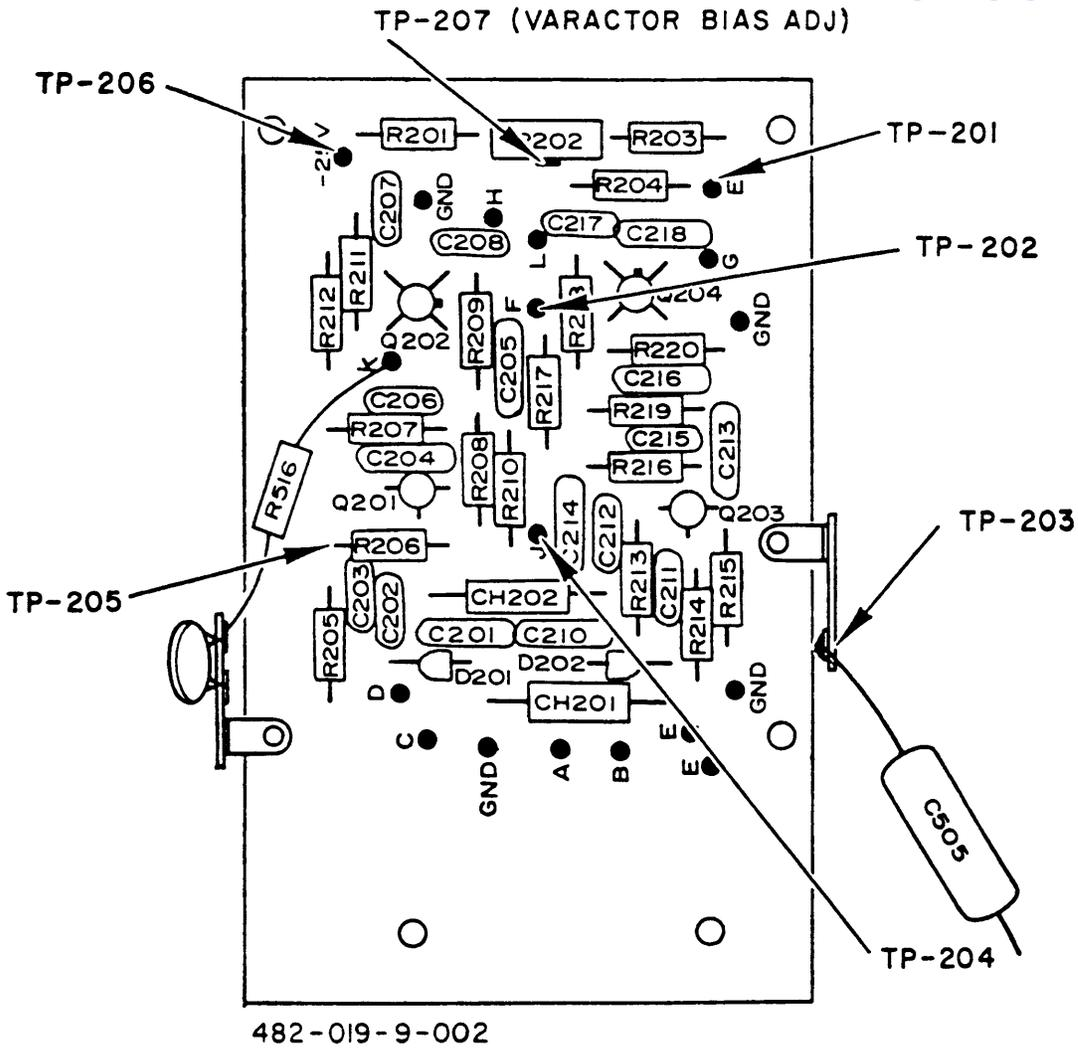

Figure 12.4. Parts Layout for Sweep Oscillator Board
(Refer to Figure 12.4)
12.4.7.1 With the Model 415 turned on, connect a VTVM (negative d-c voltage range) to TP-207 (center arm of potentiometer R202) as indicated in Figure 12.4. Adjust potentiometer R202 as required to obtain a reading of 11.0 volts dc.
F. Sweep Oscillator Voltage at TP-203, Fig. 12.4 (22 V, P-P)